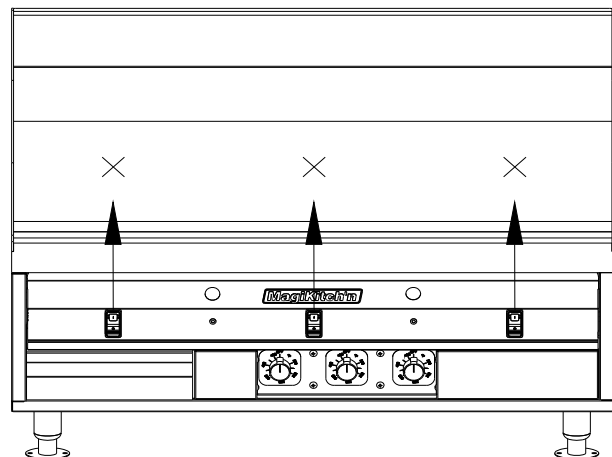

Figure 8
1. If available, place grill surface thermometer over each thermostat sensing probe 12", (30.5cm), from the front edge of the griddle surface, See Figure 8 below. The sensing probes are located in line with the thermostat knobs on snap action models, or the ON/OFF switch(s) on matchless ignition models. Align your measuring device with the respective location on your appliance and monitor the temperature at all the controls that are to be adjusted.